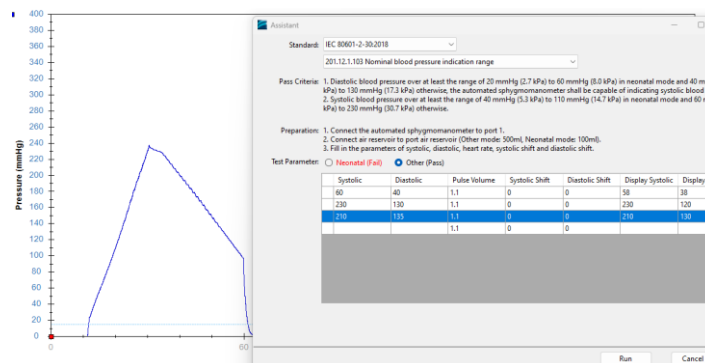

Figure 3: 2 01.12.1.103 Nominal Blood Pressure Indication Range Test Item
This test is to test that the automatic blood pressure monitor in neonatal mode needs to display a range of at least static pressure 20~60 mmHg and dynamic pressure 40~ 130 mmHg; while in other mode, the required display range is at least static pressure 40~110 mmHg and dynamic pressure 60~230 mmHg. As shown in Figure 3, the steps of Standard Assistant Software are:
- C. In **Test Parameter**, the operator can enter an unlimited number of Systolic/ Diastolic columns in the tables of neonatal and other mode respectively for simulation. According to **Test Procedure** in Figure 3, select other mode, enter Systolic: 60mmHg/ Diastolic: 40mmHg/ in the first column and keep the remaining parameters as default, press **Run** and start the DUT.